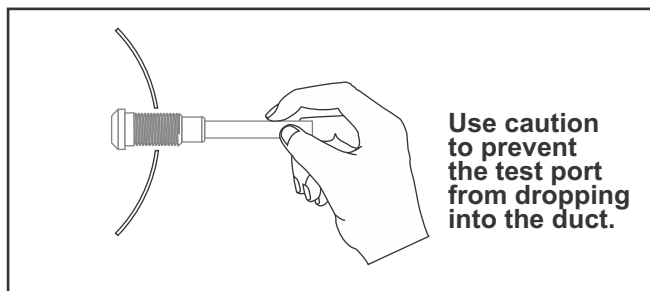

Fig. 43: Insert Test Port into duct
4. Insert Test Port: Work the test port into the hole until just the handle is showing outside the hole. (Fig. 43)